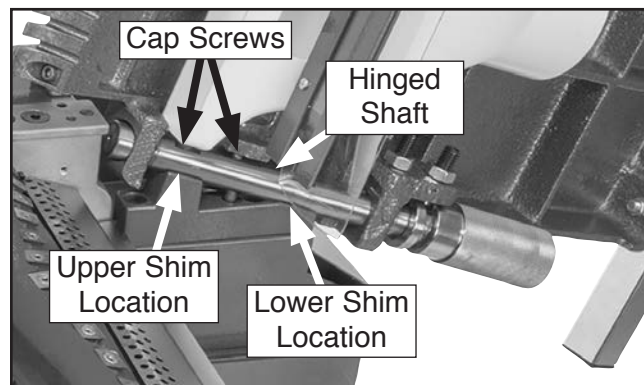

Figure 66. Infeed table hinged shaft. (Jointer table raised for clarity.)
4. Loosen cap screws shown in **Figure 66**.